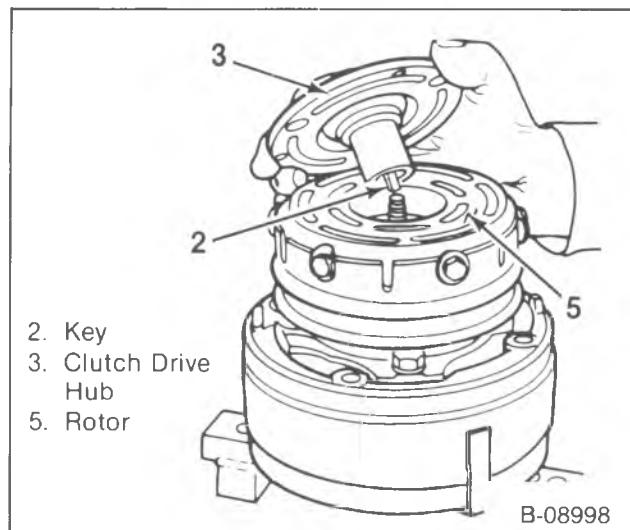
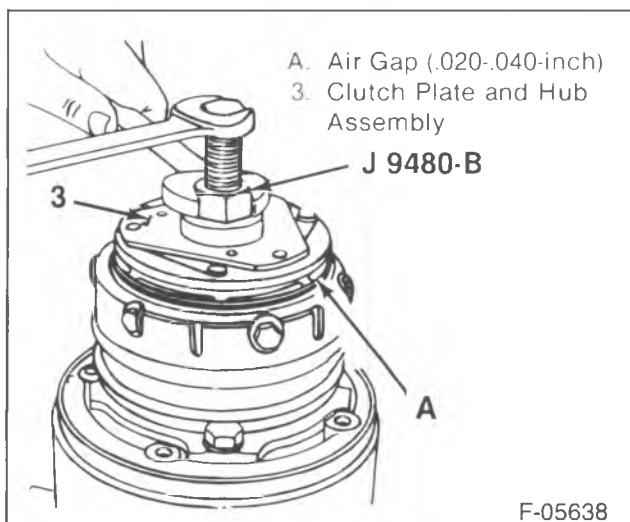

Figure 5—Installing the Shaft Key
Figure 6—Installing the Clutch Plate and Hub Assembly
1. Shaft key (2) (figure 5).
- Allow the shaft key (21) to extend 4.8 mm (3/16-inch) out of the key way.
- The shaft key (2) is curved slightly to give an interference fit in the groove.
2. Clutch drive hub (3) (figure 6).